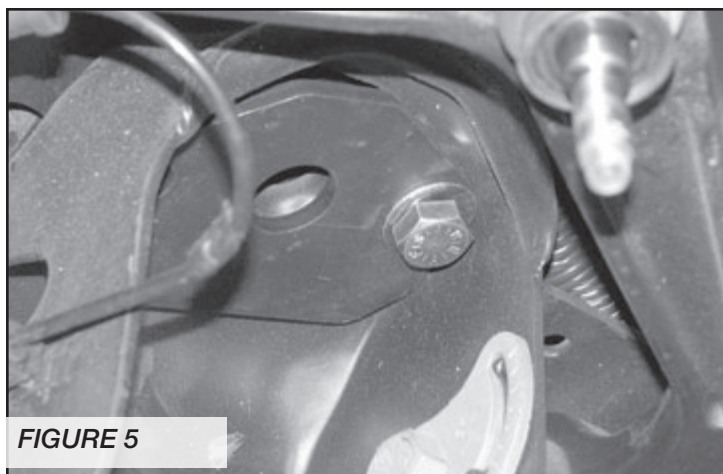

FIGURE 5
11. If installing Dirt Logic shocks, install the upper shock mount (FT20484) into the factory upper shock tower using the using two 9/16"-12 x 1-1/4", washers and lock nuts.. **SEE FIGURE 5**